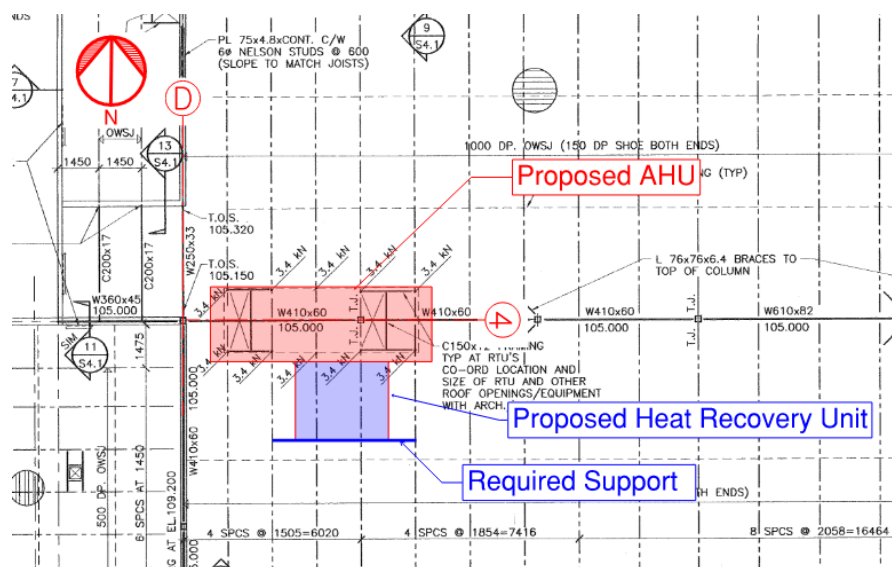

Figure 1: Partial location plan of proposed AHU
- A heat recovery unit, as an add-on, will be attached to the south side of the AHU. It has a base weight of 4,500 lb and dimensions of 121" long x 100" wide x 86" tall. The edge of the add-on unit will be approximately 56" from the east edge of the AHU (Figure 1).